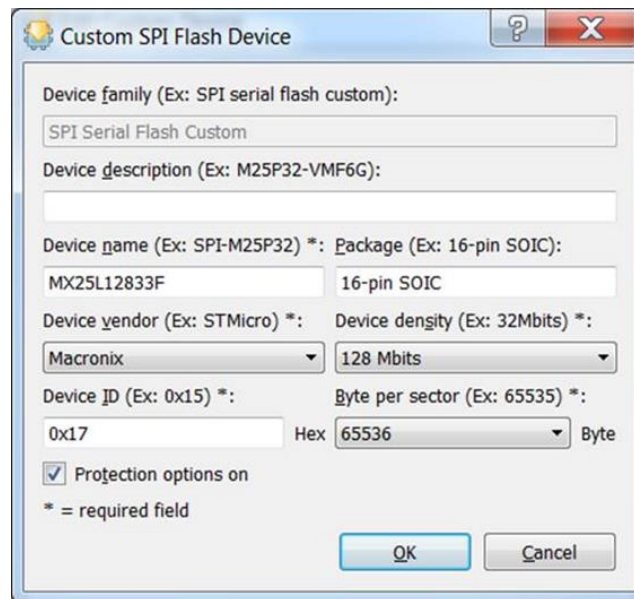

Figure 3.3. Custom SPI Flash Device Dialog
4. In the pop-up **Custom SPI Flash Device** dialog, enter contents in the six fields as shown in Figure 3.3. Check the **Protection options on** option. Click **OK**.